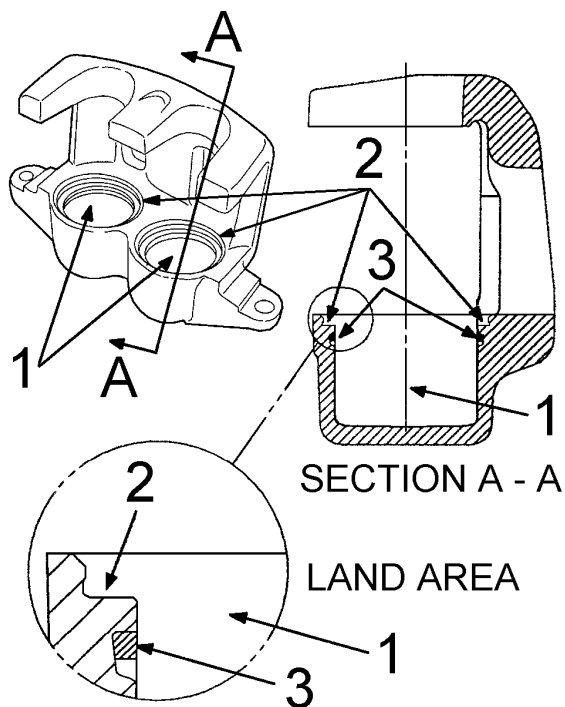

Figure 52 Apply Batco Grease To Caliper Bore Piston Boot Groove between Piston Seal and Piston Boot Groove Land Area
Refer to Figure 52 for Items in parentheses.
3. Apply a thin film of Batco grease (from 3 oz. tube in rebuild kit) to the caliper bore between the piston seal (Item 3) and piston boot groove (Item 2). Apply the grease around the entire circumference of the caliper bore piston boot groove land area (Figure 52).